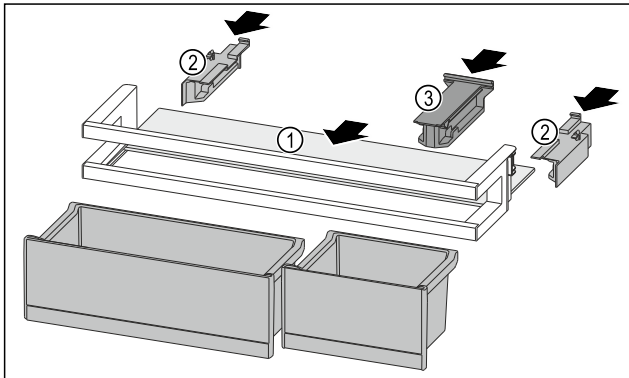

Fig. 124
- Push the shelf Fig. 124 (1) into the side recesses.
- Insert the side parts Fig. 124 (2).
- Insert the holding part Fig. 124 (3).